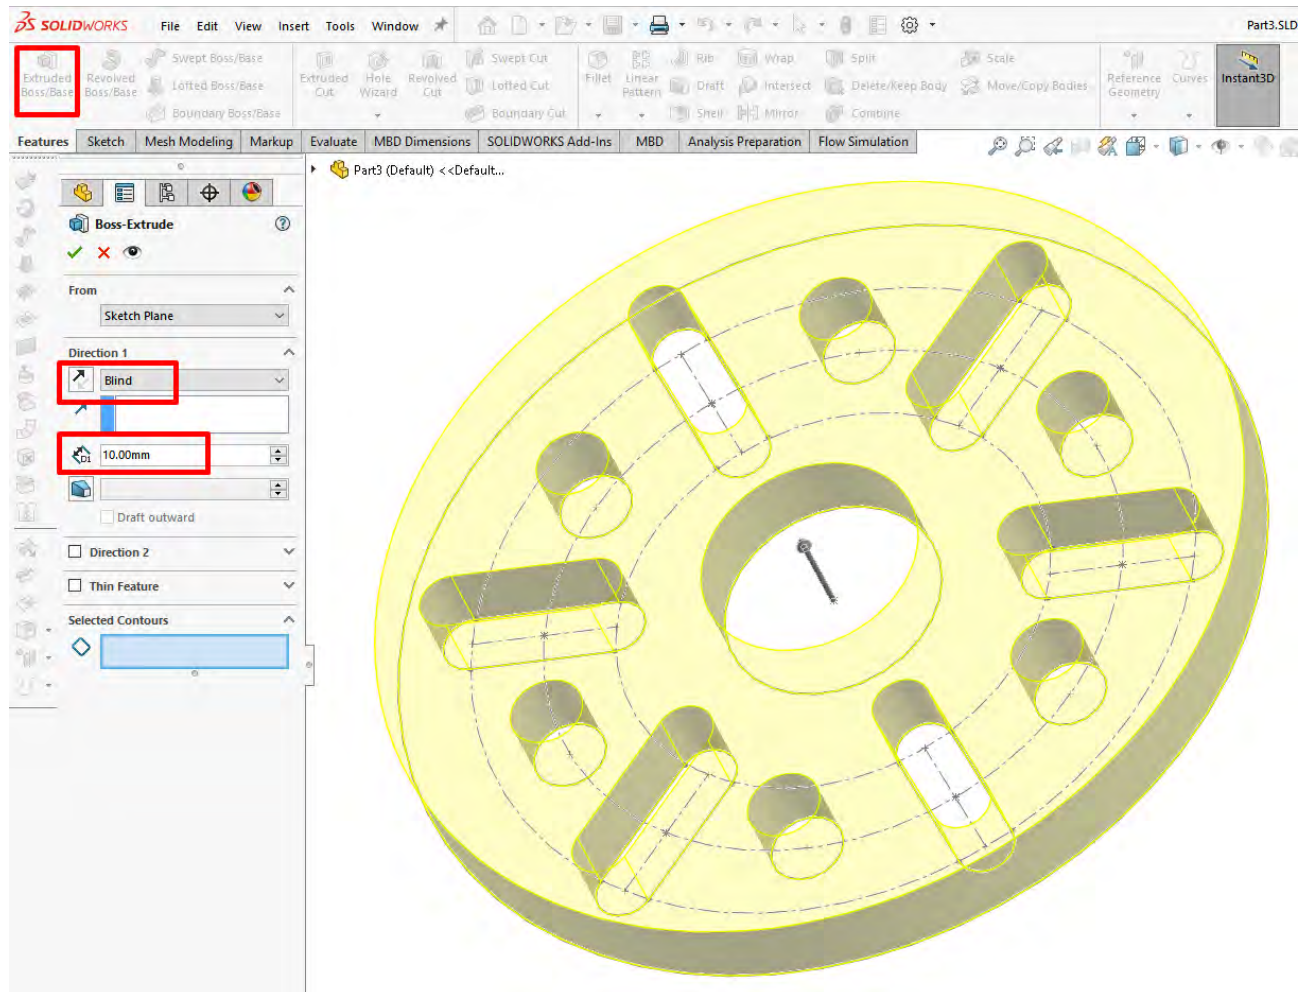

Fig. 9
- In Property Manager (Properties Panel) in the **Depth** field, enter a value of **10 mm** and select the **Blind** option (Fig. 9).